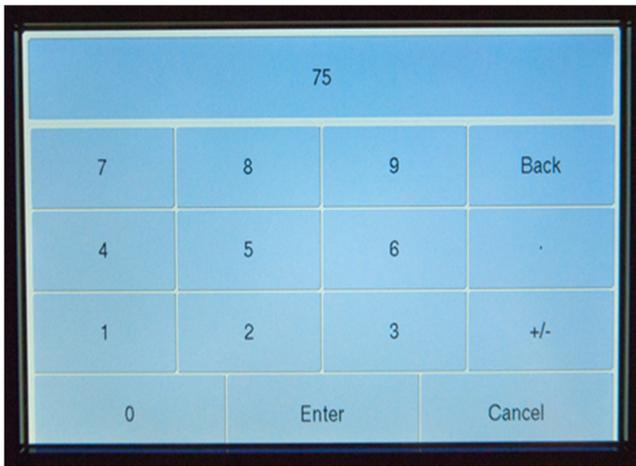
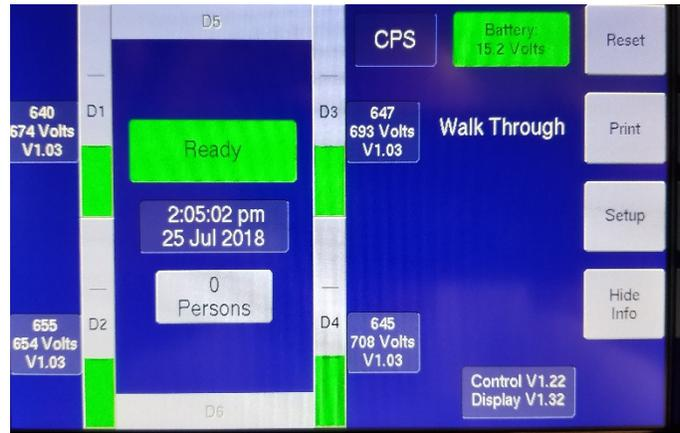

FIGURE 5
FIGURE 6
FIGURE 5 shows the key pad that will appear to numeric parameters. After entering the new information the operator touches the ENTER KEY and then the HOME button to return to normal operation. The AM-801 can operate from an internal battery or from the external wall transformer connected to 120 vac 60 Hz or 250vac 50 Hz. All of the internal power is provided by a highly regulated low temperature coefficient power supply. A separate high stability power supply with a low temperature coefficient provides 300 - 1500 vdc ($\pm 1\%$) and is located at each scintillation detector. The voltage from the internal batteries and/or external power supply is constantly displayed in the upper right part of the Display. The high voltage supply voltages, for each detector, is constantly monitored (alarms when out of range) and can be displayed by touching the INFO button in the lower right side of the VGA display. FIGURE 6 shows the VGA display with the information available for each detector that can be displayed on the HOME SCREEN. All of the signals from each detector are connected to the main control pc board located inside the portal housing by 8 conductor Ethernet cables. One 16 conductor cable connects the internal electronic of the portal monitor to the main control housing.
- 5.3.11 MINIMUM TIME OCCUPIED: This is the time the person passing through the portal must occupy the portal to achieve a satisfactory count. This time should generally be set to 0.1 to 0.2 seconds for the WALK THROUGH MODE OF OPERATION by touching the screen and the keypad will appear like FIGURE 5. Enter the correct numbers on the keypad and touch “Enter” to return to SETUP screen
- 5.4.6 Select the “Home” button on the lower right side of the screen to return to the Home Screen. Figure 8 shows the Home Screen. Figure 6 shows the Home Screen with data i.e. detector high voltage. To remove the display of this data touch the “Show Info” button in the lower right side of the screen to make the high voltage disappear from the display.
- 5.5.6 Select the “Home” button on the lower right side of the screen to return to the Home Screen. Figure 8 shows the Home Screen. Figure 6 shows the Home Screen with data i.e. detector high voltage. To remove the display of this data touch the “Show Info” button in the lower right side of the screen to make the high voltage disappear from the display.